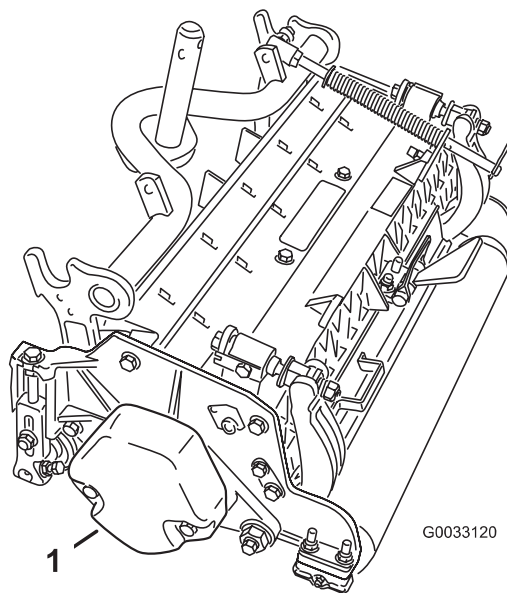

Figure 5
1. On the #2 and #4 cutting units, remove the 2 capscrews securing the counter weight to the left end of the cutting unit. Remove the counter weight (Fig. 5).